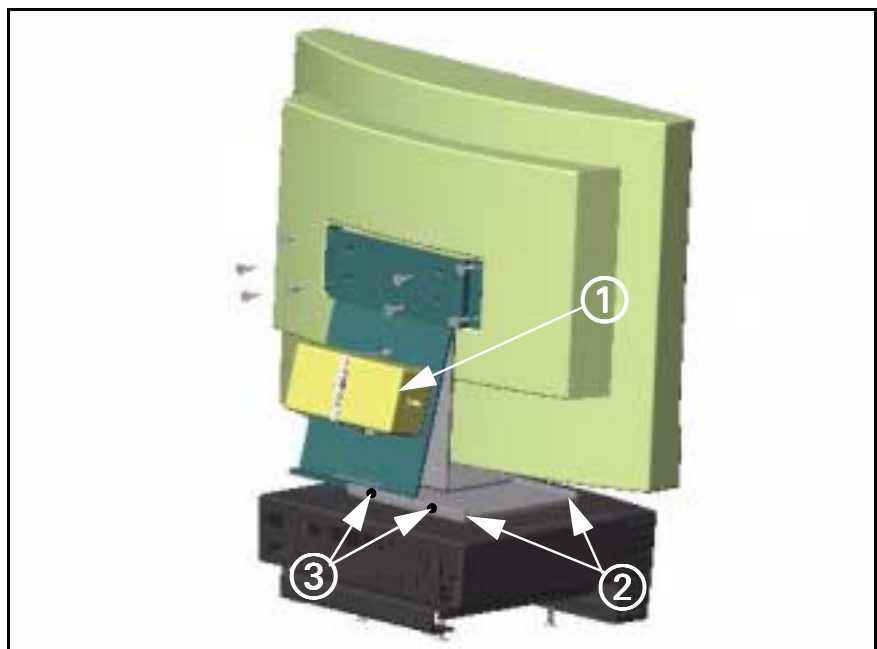

Figure 10-4 Flat Screen Display mounted to MDS
9. Set power supply (① in Figure 10-4) between both slots on support mount, and tighten cable tie to secure to secure supply to mount.
10. Set flat screen display upright with bottom of support mount aligned to slots on mounting bracket (installed in step 2 and 3 above), and slide mount into bracket (② in Figure 10-4 on page 16), so that mount is positioned in center.
11. Insert and tighten two Phillips-head screws (supplied, ③ in Figure 10-4) on rear of mounting bracket to secure flat screen display in bracket.